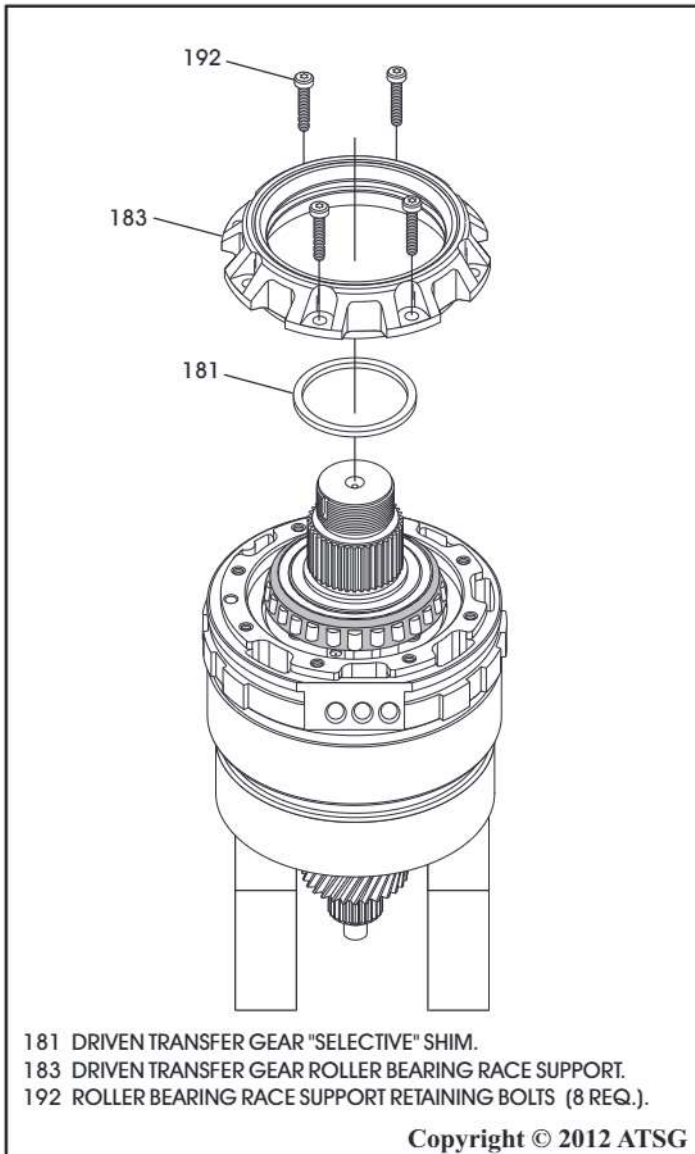
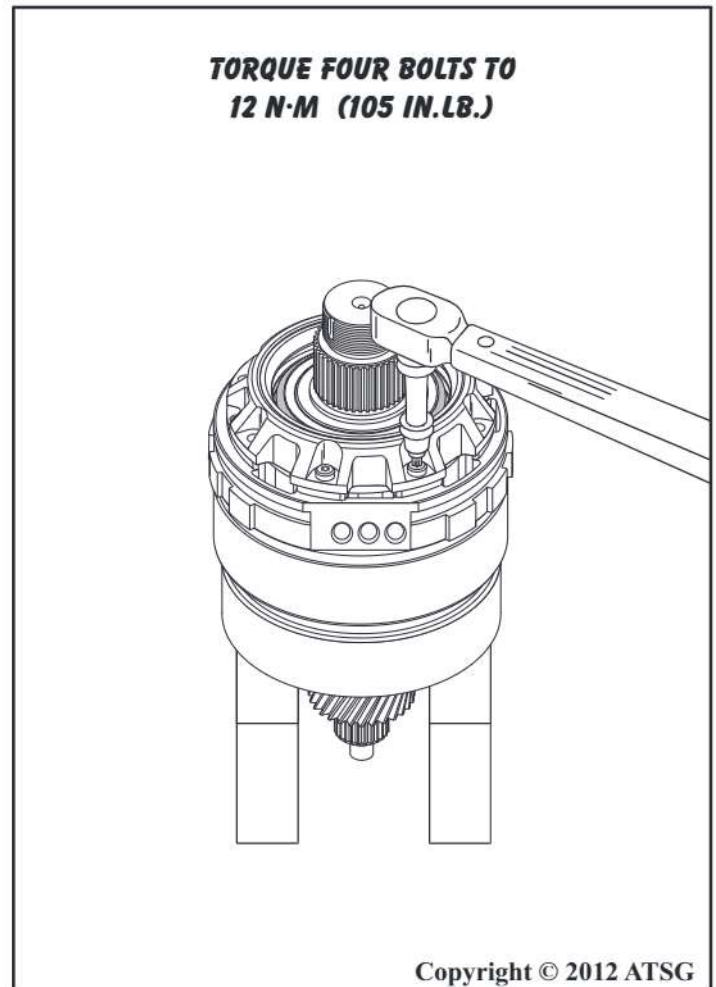

Figure 169
Figure 170
34. Turn the complete assembly over and place on blocks, as shown in Figure 169.
35. Install the driven transfer gear "selective" shim that was previously determined for pre-load, onto underdrive center shaft, as shown in Figure 169.
36. Install the driven transfer gear roller bearing race support, as shown in Figure 169.
37. Install only 4 transfer gear bearing support bolts in the positions shown in Figure 169 and torque bolts to 12 N·m (105 in.lb.), as shown in Figure 170.